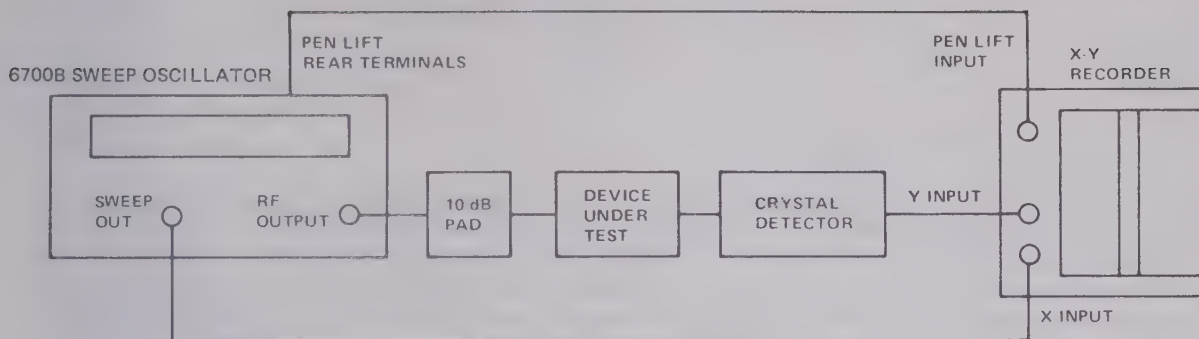

Fig. 4 Swept frequency measurement test set-up using an X-Y recorder display
46. An X-Y recorder may also be used to obtain a permanent record of the evaluation or adjustment of the device under test. As shown in Fig. 4, the test set-up using the recorder is very similar to the one for the oscilloscope. The SWEEP TIME (SEC) control must be set to either 1 or 10 and the vernier adjusted to meet the response time of the recorder. If the recorder has a pen lift or equivalent writing enable-disable feature it should be connected to the rear panel PEN LIFT terminals on the type 6700B to prevent chart marking during retrace.